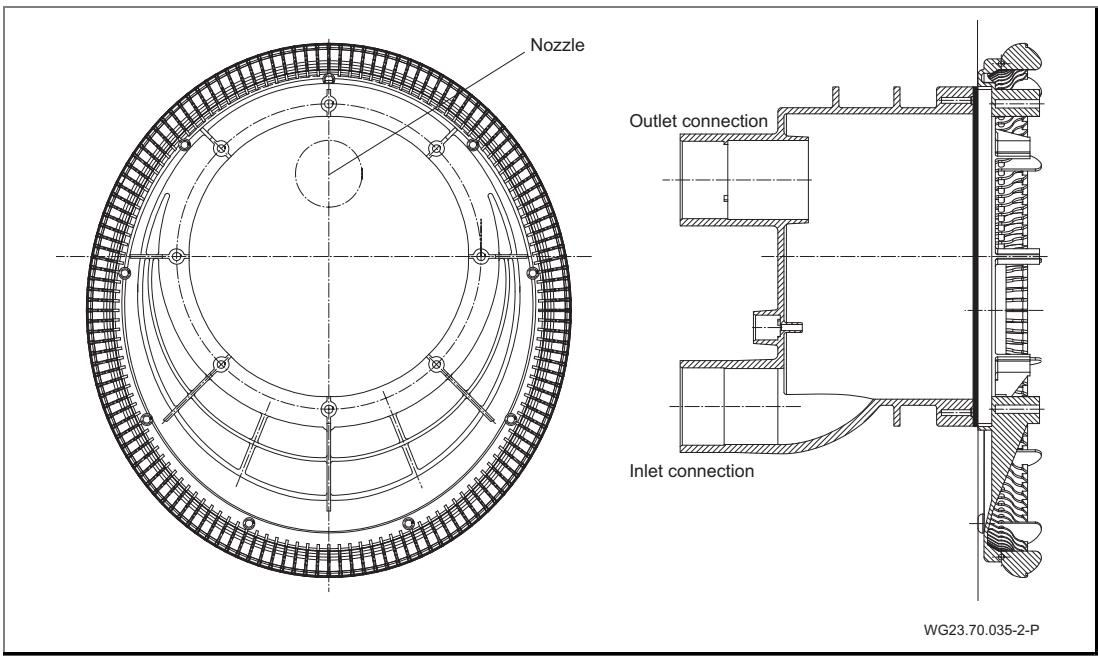
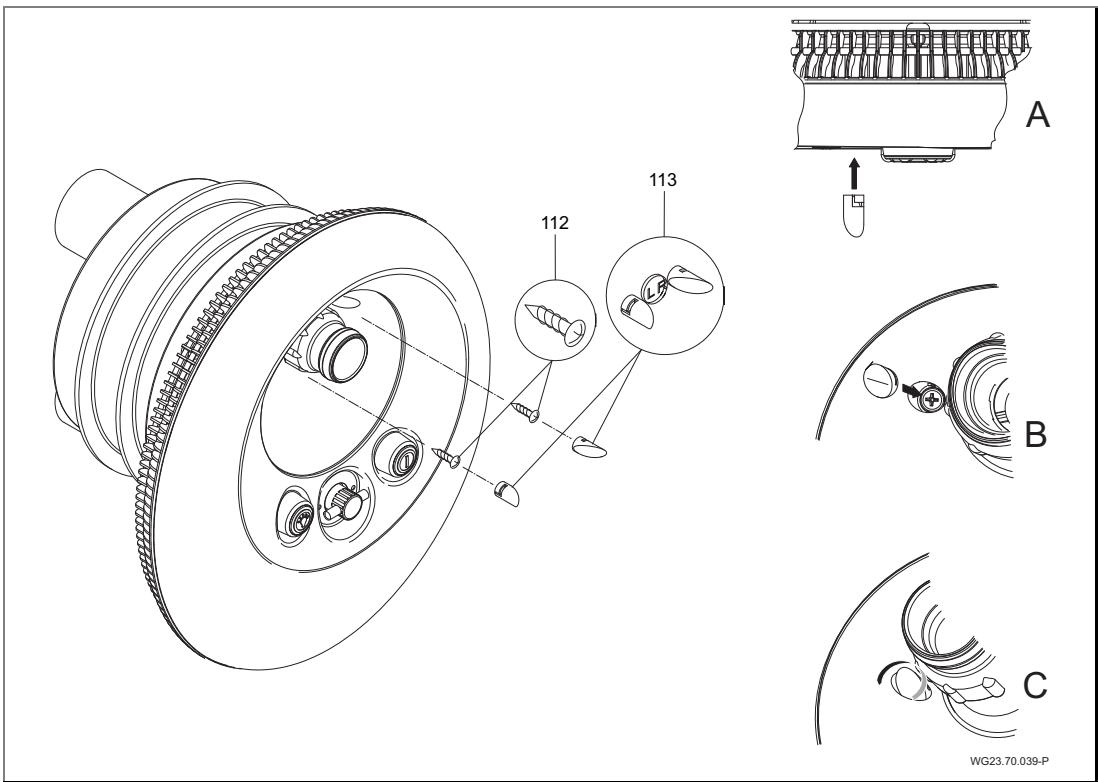

Fig. 16
Fig. 20
2. Position the suction housing (107) on the clamp ring. Pay attention to the mounting position. (Fig. 16)
3. Position the nozzle housing (102.1) on the main housing (1).
4. Lead the pneumatic hoses (47) and floodlight cables through the protective conduit (14) and seal with the cable gland (20).
5. Attach the air pipe to the air regulator (21), assembled on site, with a clamp (8).
10. Attach the decorative caps in the light cover as in Fig. 16. Use the correct decorative cap for left (L) and right (R). (Fig. 20)
1. Loosen cable screw (20).
4. Unlock cover (113). See "Fig. 20" on page 34.
5. Loosen screws (112) and remove lighting cover (110).
6. Loosen screws (49) and remove stainless steel cover (93).
7. Loosen screws (95) and remove suction housing (107).
8. Loosen screws (52) and remove support ring (28) and support ring seal (27).